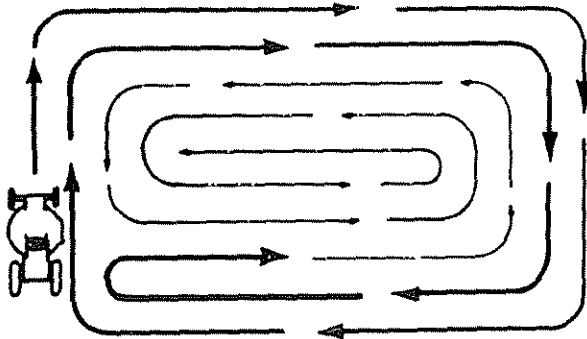

FIGURE 9
- d. When mowing large areas (Fig. 9), start by turning to the right so that the clippings will discharge away from shrubs, fences, driveways, etc. After two or three rounds, mow in the opposite direction making left hand turns until finished.